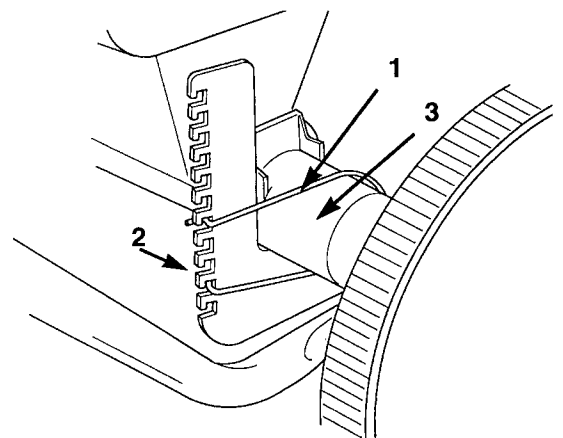

Figure 79
- C.** Rotate the hold-down spring around the spreader axle support and hook it into the lowest possible notch on the upper part of the L-shaped bracket (Fig. 79).
1. Remove the hold-down spring by disengaging it from the L-shaped bracket (Fig. 79).